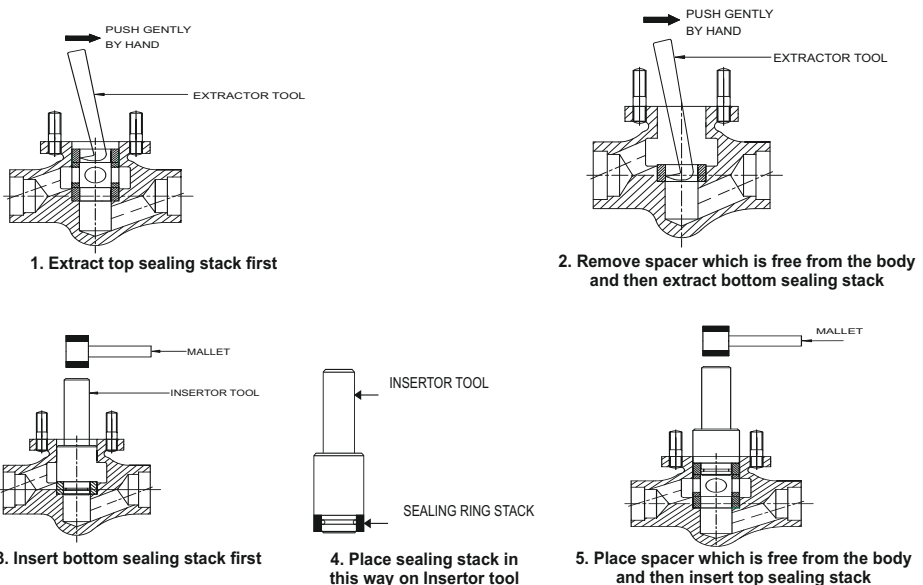
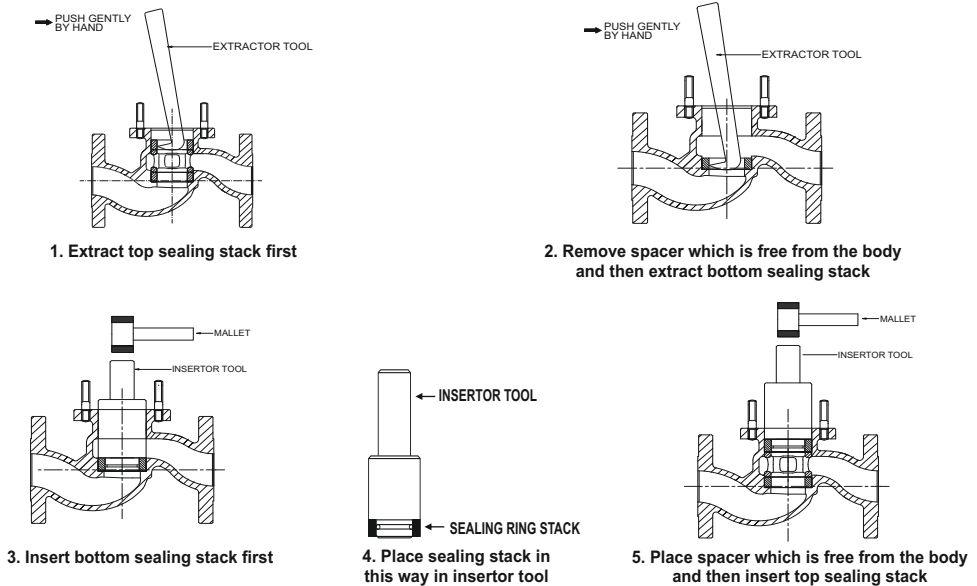

Figure 9 : View showing extractor tool and insertor tool for sealing stack of piston valve of size DN15–40
Figure 10 : View showing extractor tool and insertor tool for sealing stack of piston size of DN50
1. Keep piston valve fully open remove nuts (7) & Belleville washer (8) turn handwheel (11) in clockwise direction till it stops at the top.
2. Pull handwheel (11) carefully along with bonnet (2) to remove piston (3) from body (1).
3. Avoid any damage to piston (3).
4. Clean piston (3) with lint free cloth.
5. Remove top sealing stack (9) with the help of extractor tool, remove spacer (10) [which is free in the body (1)] and remove bottom sealing stack (9) with the help of extractor tool. Replace with new set of bottom sealing stack (9), place spacer (10) and replace top sealing stack (9) with the insertor tool. Use mallet to apply light strokes on insertor tool ensuring they fit perfectly. (Refer figure 9 for extractor tool and insertor tool of piston valve for size DN15 – 40 and figure 10 for extractor tool and insertor tool of piston valve for size DN50)
6. Align piston (3) with the top sealing stack (9) and push gently and close the piston valve by rotating handwheel (11) in the clockwise direction until it touches the bonnet (2).
7. Ensure that the Belleville washer (8) are placed properly in cup form and tighten all nuts (7) with equal torque when the piston (3) is at the end of bottom sealing stack (9). (Refer Table 1 for recommended tightening torque).